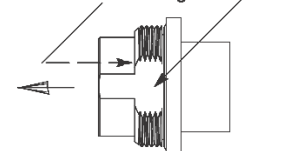

Figure 13
7. Using an applicator swab, apply a *thin film* of grease around the O-ring on the outside of the EB insert, the front seal on the inside of the housing, and the internal O-ring of the D-hole housing. Remove any excess grease. Refer to Figure 13, Detail A.
8. Align the large diameter end of the D-hole housing with the back (end opposite the front seal) of the housing so that the desired rotational orientation is established (use the flat on the D-hole housing as the reference point). Refer to Figure 13, Detail B. Then slide the D-hole housing onto the housing until a distinct bottoming of the D-hole housing is felt.
**NOTE** There are 4 rotational orientations for mounting the connector to the panel: top, bottom, left, or right. Aligning one of the keyways located inside the D-hole housing with one of the external keys of the housing will establish the rotational orientation (one keyway is parallel to the flat). Refer to Figure 13, Detail B.